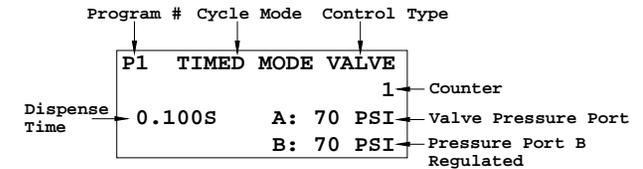

Figure 3.0
2. Press the Power button (1) to turn on the unit.
4. Press the Mode (2) and Set button (3) simultaneously until "VALVE" appears on the top right hand corner of the Display as shown in Figure 3.0